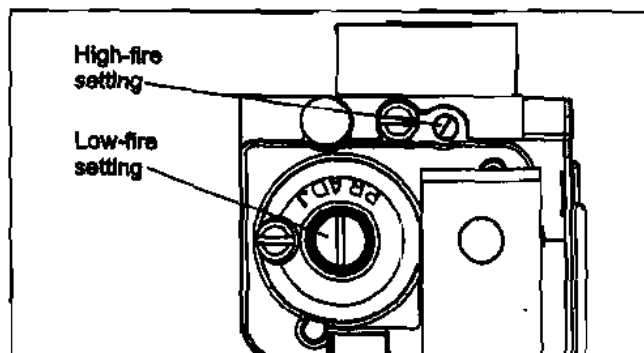

Figure 25. Adjustment Screws.
6. Remove lower cover to access gas valve and adjust as needed. Begin by adjusting the maximum input CO2 then continue by adjusting the minimum input CO2. Any high fire adjustment may affect low fire settings. Screws for adjustment are shown in Figure 25.